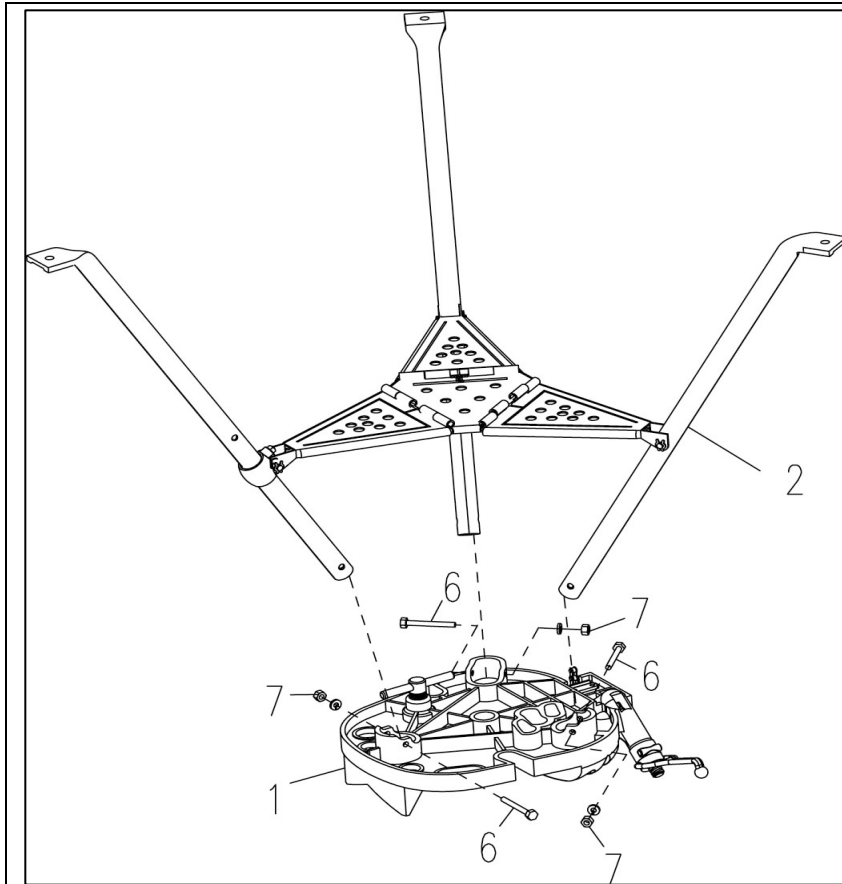

FIGURE 3
- **Step 3)** Place Base assembly (part no.1) upside down on ground or bench and place legs into the holes with Front leg assembly (part no.14) toward jaws. Insert Leg bolts (part no.6), secure with nuts and lock-washers (part no. 7) see figure 3 below.